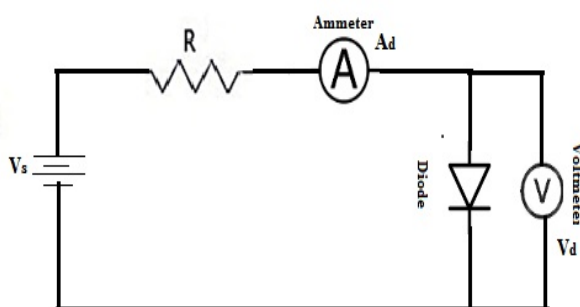

Fig.1. Forward Bias Circuit
It is a two terminal device consisting of a P-N junction formed either in Ge or Si crystal. A P-N junction has P-type and N-type semiconductor pieces before they are joined. P-type material has a high concentration of holes and N-type material has a high concentration of free electrons and hence there is a tendency of holes to diffuse over to N side and electrons to P-side. The process is known as diffusion. Volt-Ampere Characteristics of P-N Junction: - Fig.1 shows the circuit arrangement for drawing the volt-ampere characteristics of a P-N junction diode. When no external voltage is applied the circuit current is zero. The characteristics are studied as following:
1. Assemble the circuit on your breadboard as shown in Fig.1. Connect to the 0-30 V DC power supply.